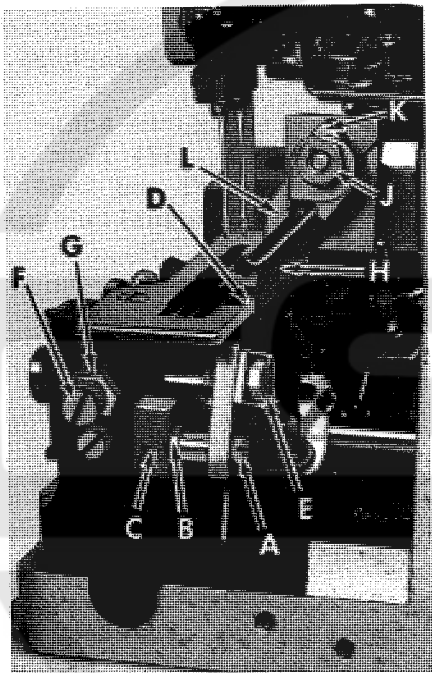

Fig. 16
Replace the lower knife holder assembly. In replacing the lower knife holder assembly, tighten screw (A, Fig. 16) so that when the face of the flange on sleeve (B) seats against throat plate mounting bracket (C), a free lateral motion of the lower knife and holder assembly is obtained when the knife is manually pressed at its upper corner. Lower knife (D) should be set with cutting edge flush with top of throat plate. Adjustments are made with hexagonal head screw (E) which holds the lower knife. Lower knife is spring pressed against the upper knife, so no lateral adjustment is necessary when the width of trim is changed.
Replace the upper knife assembly. Clamp upper knife (H, Fig. 16) in position, setting nut (J) to hold clamp (K) in its most clockwise position against upper knife. At the bottom of its stroke, front cutting edge of upper knife should extend not less than $1/64$ inch (.40 mm) below cutting edge of lower knife. The chain guard (L) should be set down against the upper knife and slightly back from the cutting edge.